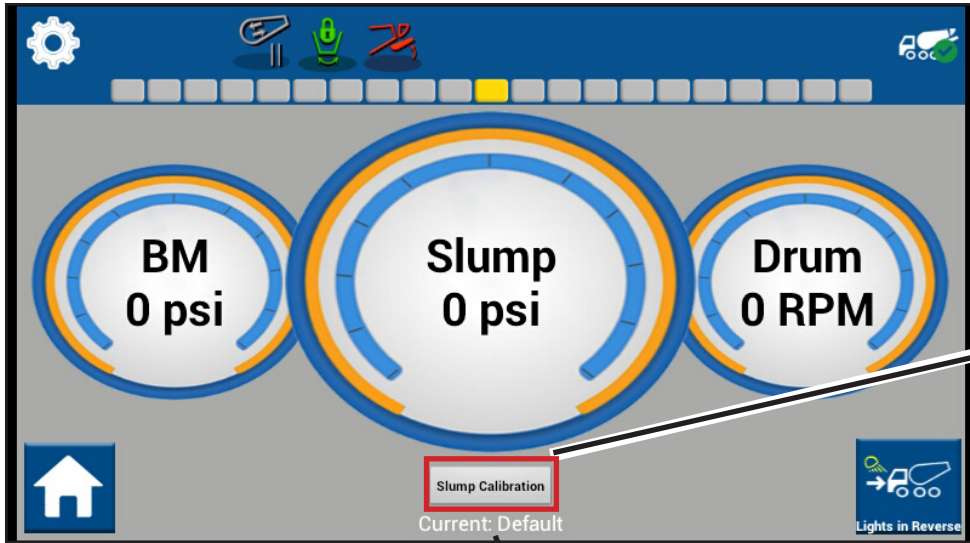

Figure 142
1. Touch the Slump Calibration icon to enter the Slump Calibration screen (Figure 142).
2. Touch the “Inches” (Figure 142, Item 1) or “PSI” (Figure 142, Item 2) text box to bring up the on-screen keyboard to enter in and change the value.